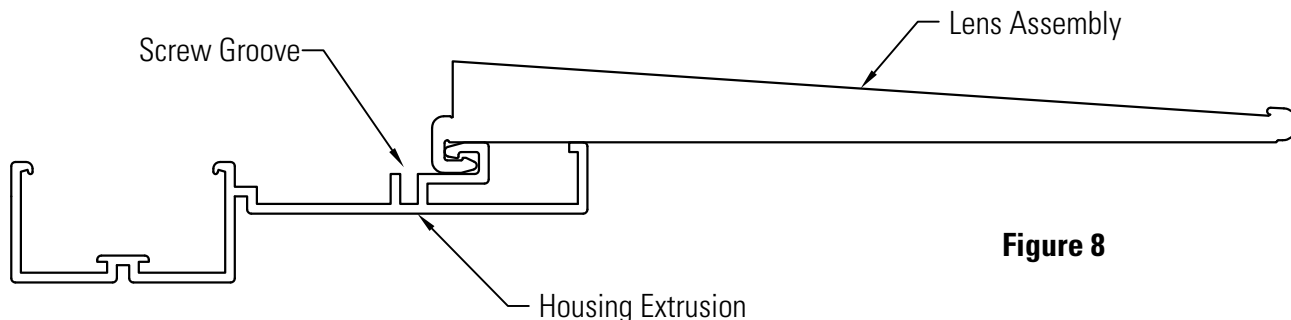

Figure 8
Step 1. Make sure the lenses are fully engaged with the housing. (Fig. 8)